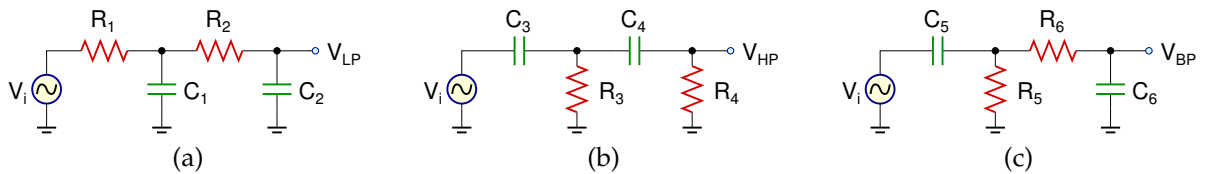

Figure 1: Second order (a) lowpass filter (b) highpass filter (c) bandpass filter
1. Derive the transfer functions for the circuits shown in Figs. 1(a), 1(b) and 1(c):
Draw the schematics for the circuits in Fig. 1 with the calculated component values. Perform the following simulations for each circuit:
Build the circuits in Fig. 1 with the simulated component values. Perform the following measurements for each circuit:
1. Build the circuits in Fig. 1(a), (b) and (c) on your breadboard and bring it to your lab session.
4. For the lowpass filter in Fig. 1(a):
5. For the highpass filter in Fig. 1(b):
6. For the bandpass filter in Fig. 1(c):